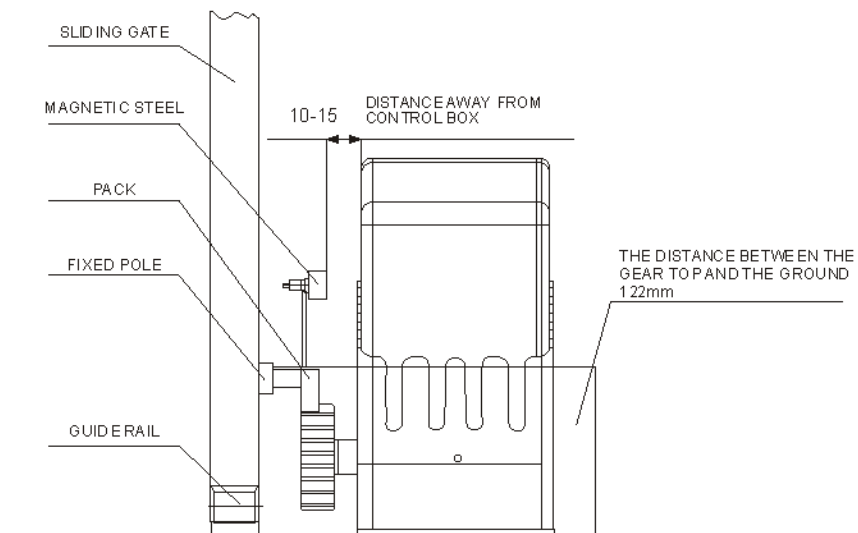

Fig.4
The foundation of the gate operator is shown in Fig.3, and the position between the gate operator and the sliding gate is shown in Fig.4. When cements have solidified, put the gate operator on the installation plate and press it in the direction as shown in Fig.4. Adjust it to the proper position and fix it with screws and nuts.
- 3) Install the magnetic switch as shown in Fig.4 .A magnetic- sensitive switch is installed to control the position of the gate. Then release the gear clutch and push the sliding gates manually to confirm the required position. Solder the magnetic fixed plane to the racks and tighten the gear clutch. Finally, adjust the magnetic switch to the proper position by moving the gate with the motor. The switch box should be within 10 to 15 mm away from the magnetic steel, if the distance is excessive. The switch would fail to work. (See Fig.4)